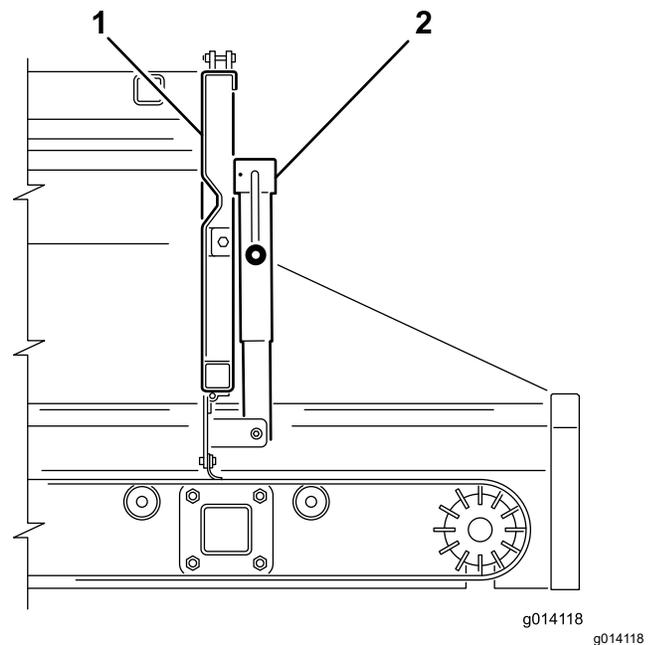
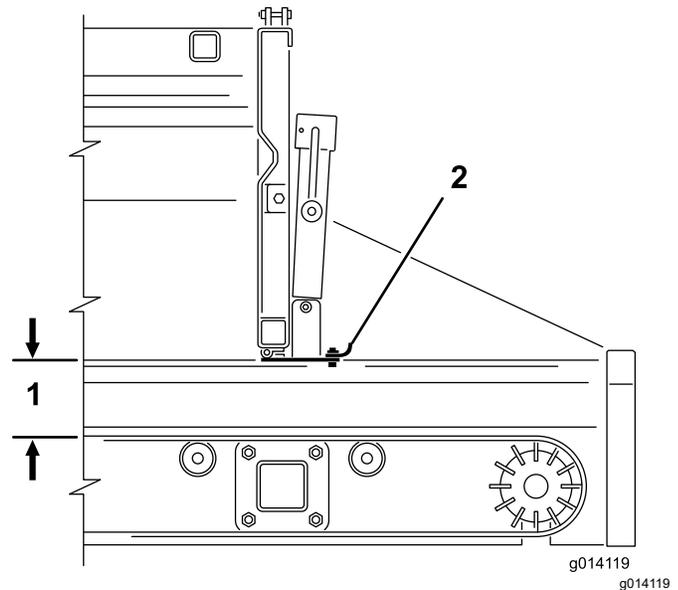

Figure 43
Figure 44
2. Use the jack handle to open or close the adjustable section of the rear gate (Figure 43 and Figure 44). This restricts the flow of materials when using an option.